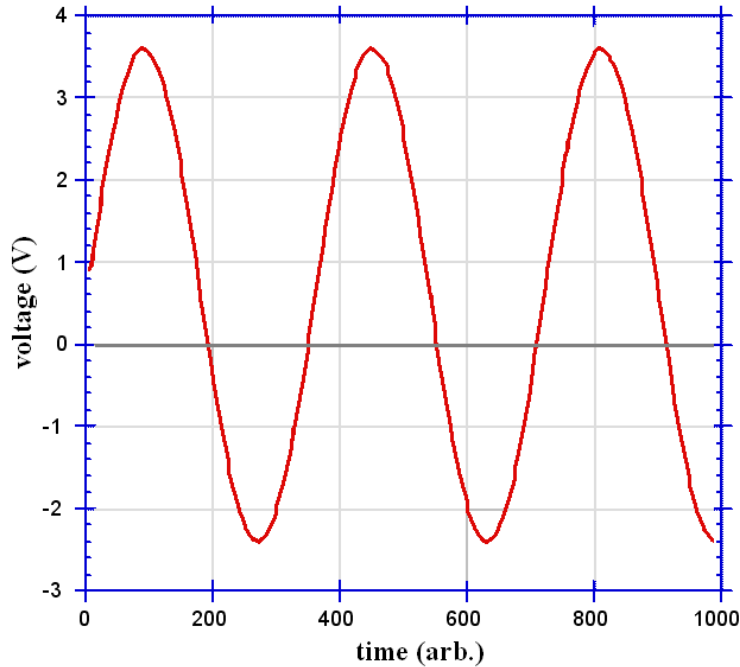

Figure 1: A 3 V sine wave (6 V peak-to-peak) with 0.6 V DC offset.
1. *Scope Coupling*: For the remainder of the experiment use the special probes to connect inputs to the DPO. As noted above, these inputs can be AC or DC coupled. Suppose you started with a sine wave that is shifted vertically in voltage (i.e., DC offset) so that it is no longer centered on zero. The AC coupling removes the shift, so that the signal looks like a sine wave centered on zero. Add some DC offset to the function generator output to create a shifted sine wave. Now switch your DPO between AC and DC coupling. Observe the effects on the scope. Figure 1 shows a sine wave with such a DC offset.